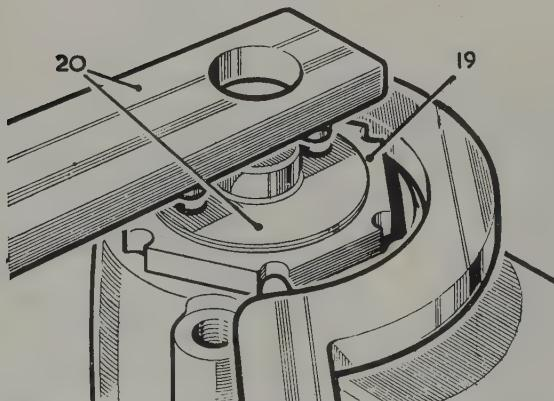

Fig. 11.40. Removing worm adjuster with a peg spanner (power steering box)
- 13 Remove the worm adjuster screw - a peg spanner will be required for this. One can be made up quite simply using a flat bar and two small bolts (Fig. 11.40).